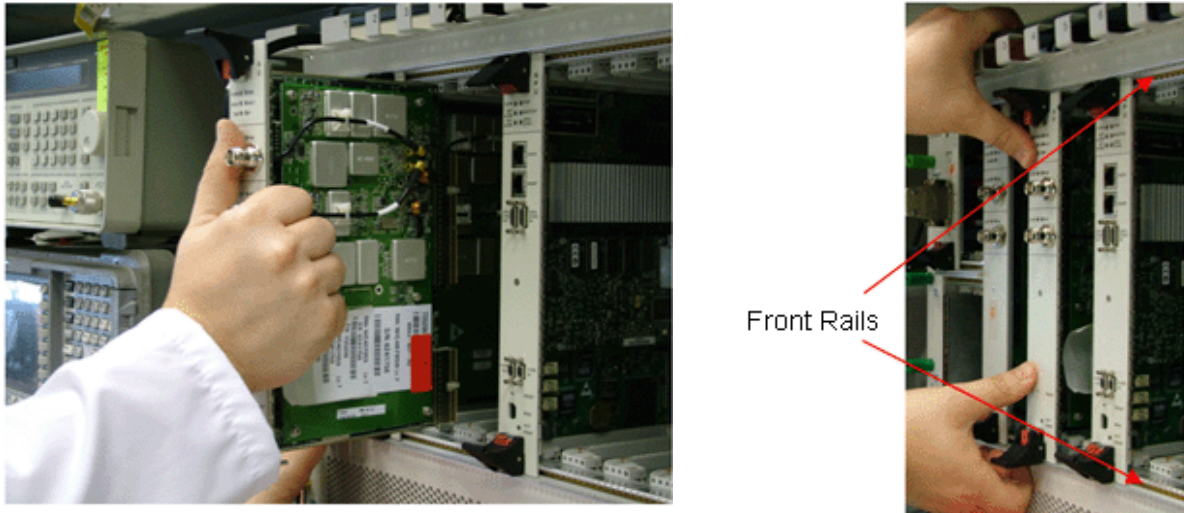

Figure 5-6: Positioning the Module in the BST Chassis
- 2 Slide the module all the way in its designated position in the BST chassis (see Figure 5-6) and gently push the module using your fingers only, until the module's front panel reaches the front chassis rails.